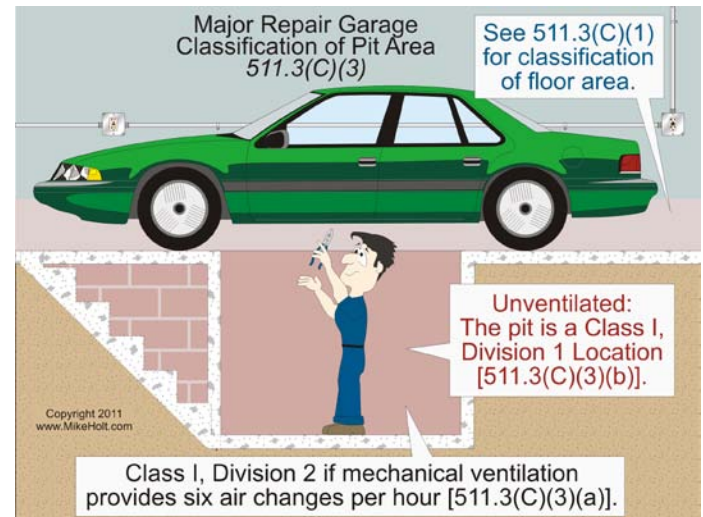

Figure 511-3
**(3) Pit Areas in Lubrication or Service Room.** The pit area is classified as provided in (a) or (b). **Figure 511-3**